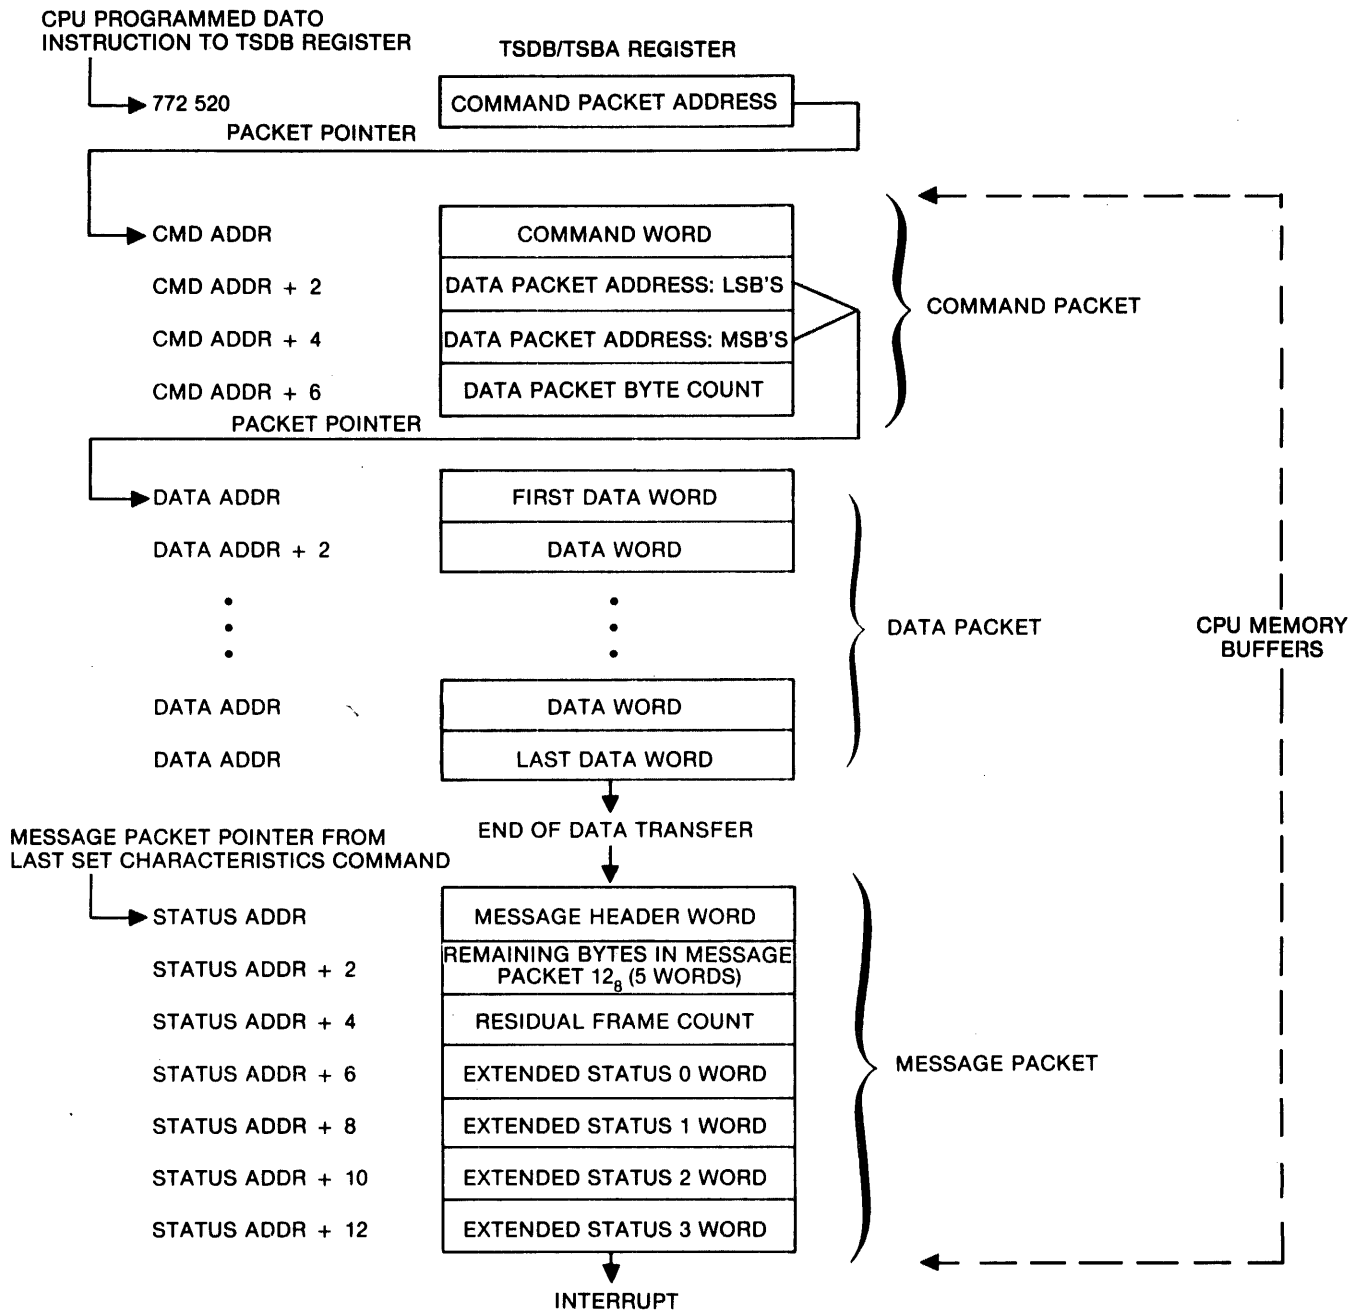

Figure 4-1. READ/WRITE Command Sequence
5. The coupler TSBA contents access the next command word—a read or a write command. Read/Write command packets comprise four successive memory locations (eight bytes) that contain (see Figure 4-1):